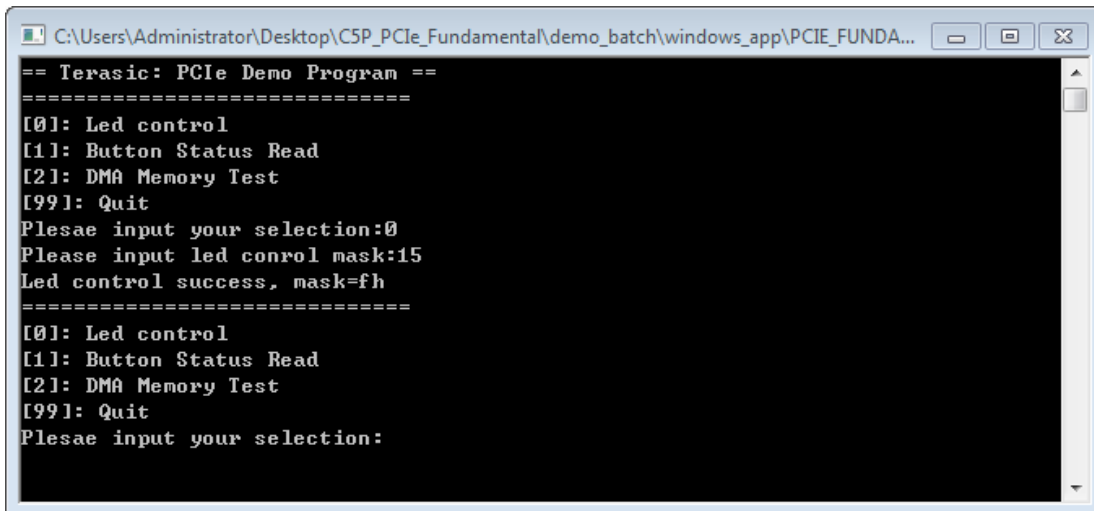

Figure 7-12 Screenshot of Button Status Report
8. Type 1 followed by an ENTER key to select Button Status Read item. The button status will be report as shown in **Figure 7-12**.